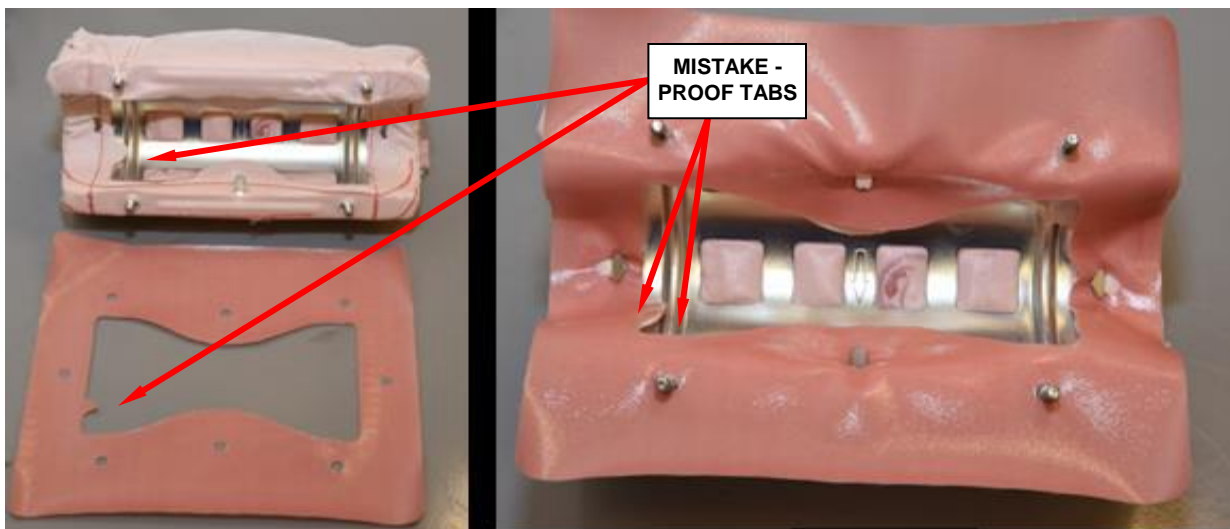

Figure 23 – Fabric Gasket to Cushion
- h. Place the fabric gasket, glossy side up, onto cushion. Mistake-proof tab should be aligned to the tab on the cushion (Figure 23).